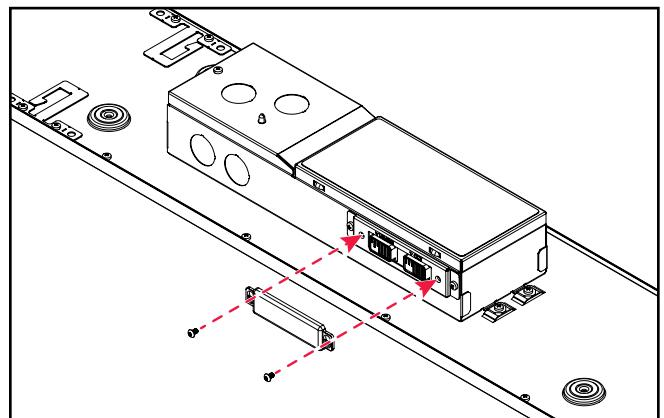

Figure 8.
11. Once desired lumen level and CCT have been selected, attach provided switch cover securely using provided screws. (Figure 8.)